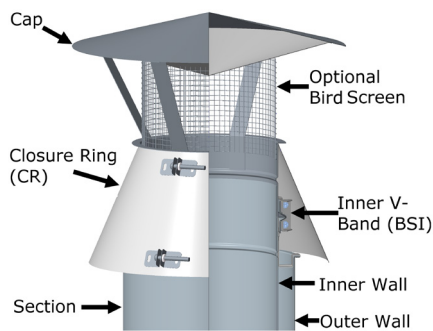

Figure 68 - Rain Cap (RC) installed
The Rain Cap combine partial protection against rain entry with low exit flow (resistance is roughly 0.5 velocity heads). It is mounted to the end of a standard pipe section by use of the standard Inner V-Band (BSI). See Step 1 to 4 in the JOINT ASSEMBLY Section. It is a single wall assembly (for all Models SCL, CAX1, CIX1, CIX2 and CIX4), but a Closure Ring (CR) is provided as part of the Rain Cap so that the insulating space is protected through the upper end of the chimney. The CR must be seal to the inner wall with outer Sealant S-375. See Figure 68.